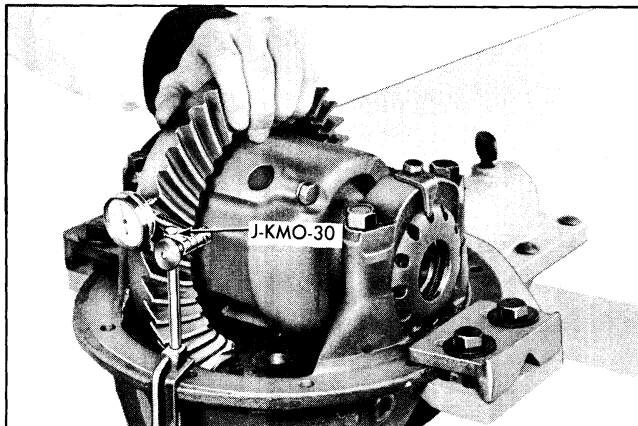

Fig. 4-61 Checking Backlash with KMO-30 Set
27. Using indicator KMO-30, check variance of ring gear backlash. Backlash should not exceed .005"-.009" (Fig. 4-61).